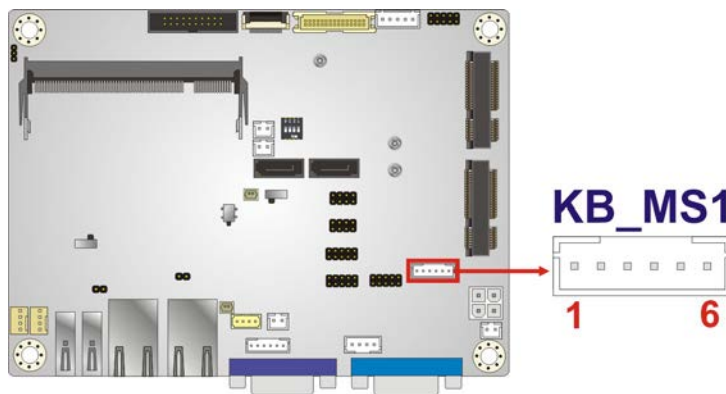

Figure 3-11: Keyboard and Mouse Location
- CN Location:** See **Figure 3-11**